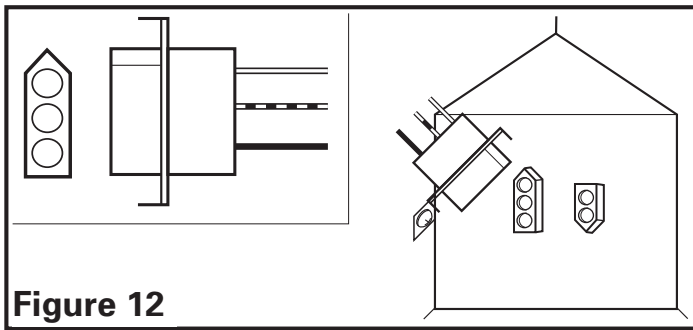

Figure 12
3. Plug the fan's 2 pin quick connect motor cord and the 3 pin quick connect motor cord into the receptacles located on the top of the wire compartment cover. These cords will only fit one way into the receptacles (**Figure 12**).